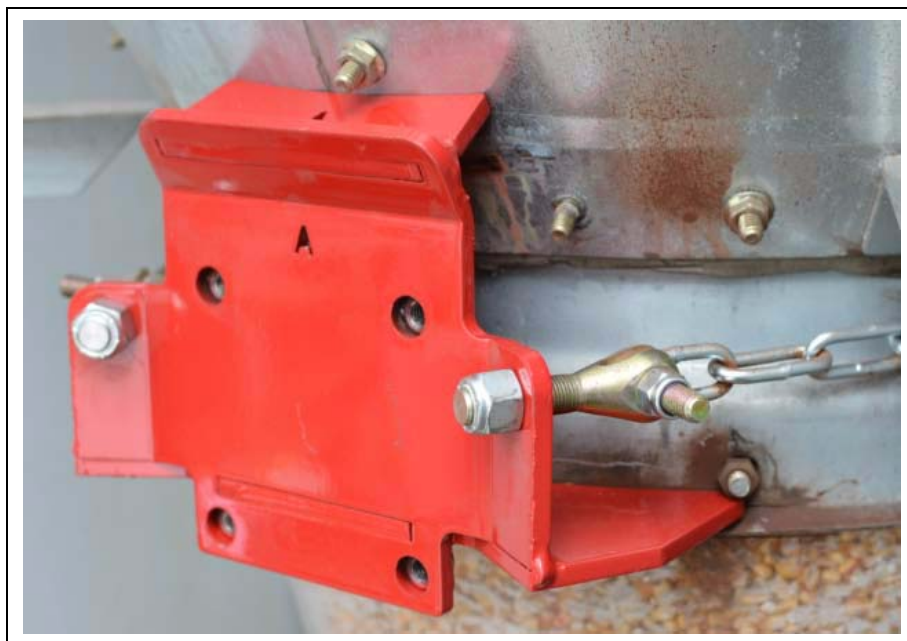

Figure 3B
2. Position the mounting bracket against the bin hopper with the bottom of the mounting bracket seated on the hopper collar lip. The top of the bracket is marked with a letter. (See Figure 3B.)